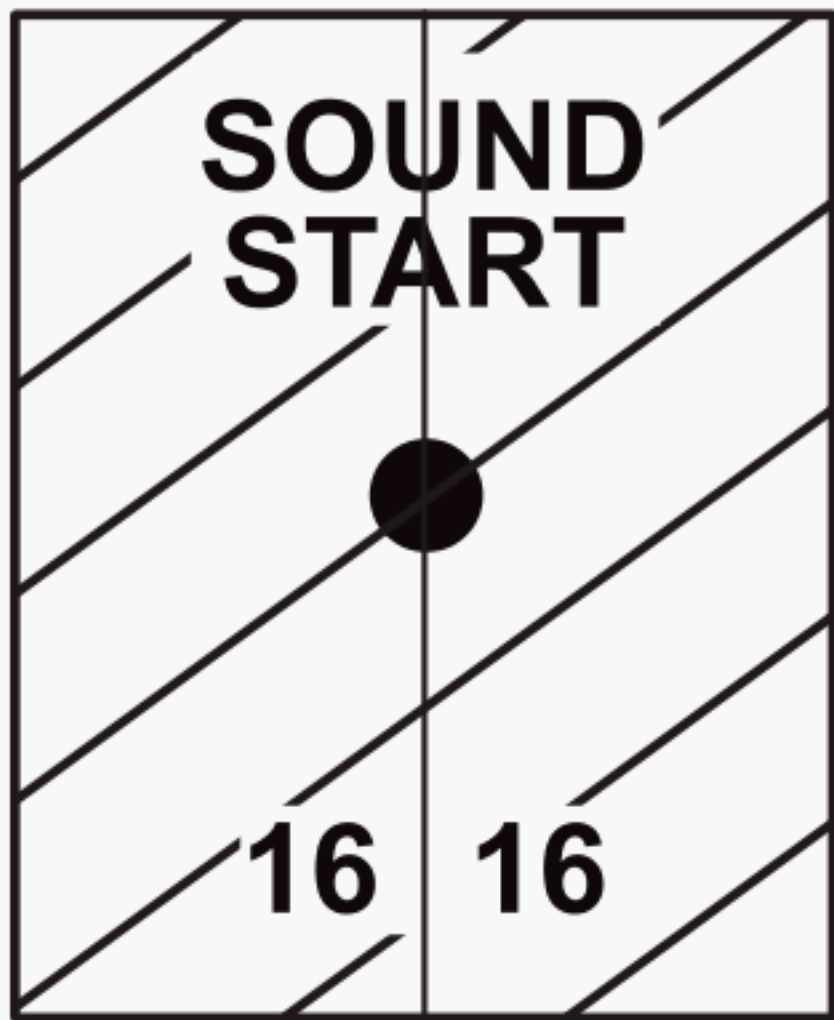

Figure 2 — 16 mm sound-start identification frame
- Frame 1 — The 16 mm sound indication; the numeral “16” printed lengthwise in clear letters on a black background on both sides of a clear horizontal line with a clear dot of 3,2 mm (1/8 in) diameter in the centre of the frame (as shown in Figure 2). The line shall extend to the edges of the frame. This frame is repeated every 16 frames to frame 129. Frame 1 shall also contain the words “SOUND START” printed lengthwise in clear letters 3,2 mm (1/8 in) high on a black background (see Figure 2).